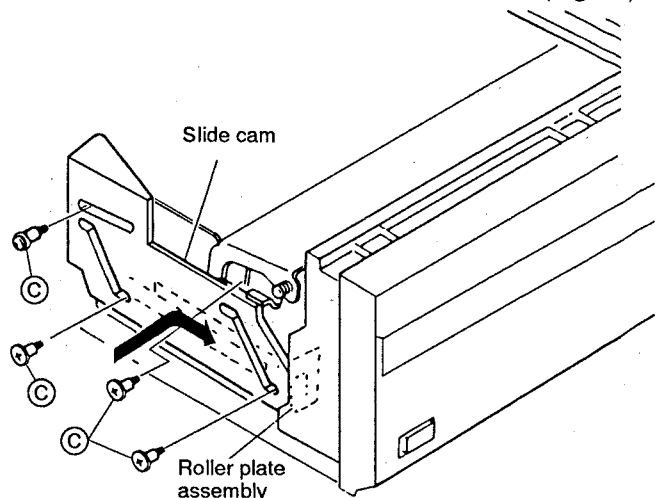

Fig. 18
- ② Tighten four screws (C) to install the slide cam. (Fig. 18)